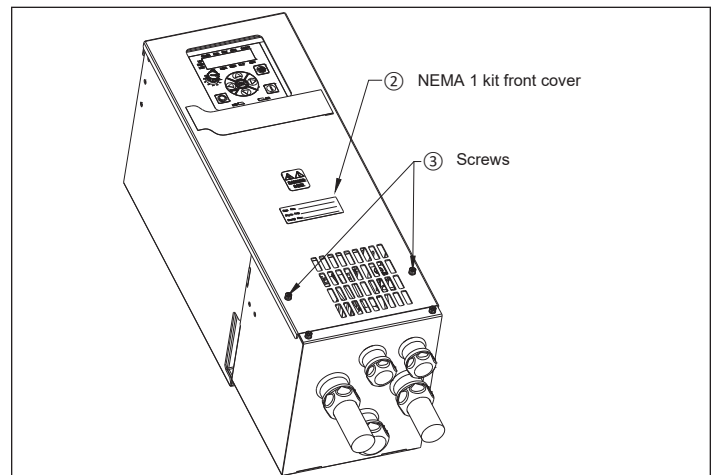

Figure 22. Mounting the NEMA 1 front cover.
Mount the NEMA 1 kit front cover (2) back to the conduit box with two screws (3) (see Figure 22).